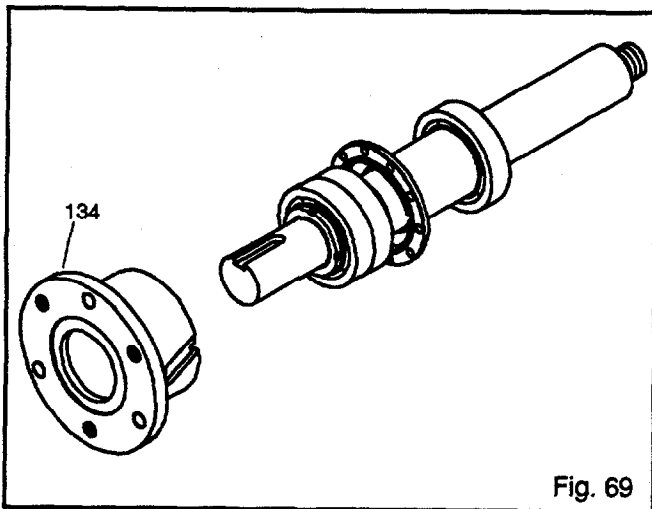

Fig. 69
10. Install bearing housing (134) onto shaft/bearing assembly (Fig. 69).